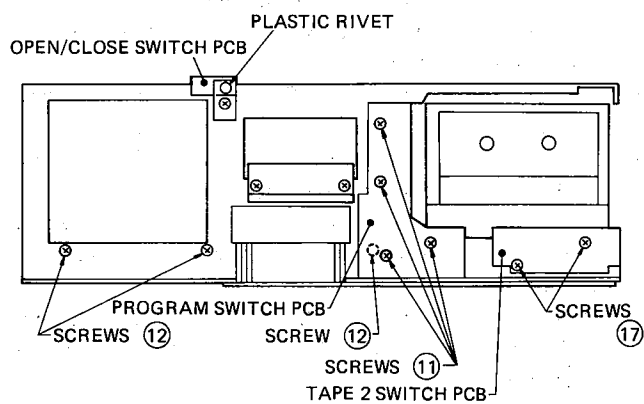

Fig. 6
- 5) Remove the OPEN/CLOSE Switch P.C.B. installed on the Front Chassis from the plastic rivet (refer to Fig. 6).
- 6) Remove the 4 Program Switch P.C.B. fixing screws (11) and remove the Program Switch P.C.B. by sliding to the left.
- 7) Remove the 3 Magazine Mechanism Assembly fixing screws (12) shown in Fig. 6.
- 2) Remove the 4 screws (11) and 2 screws (17) shown in Fig. 6 and remove the Program P.C.B. and the Tape 2 Switch P.C.B.